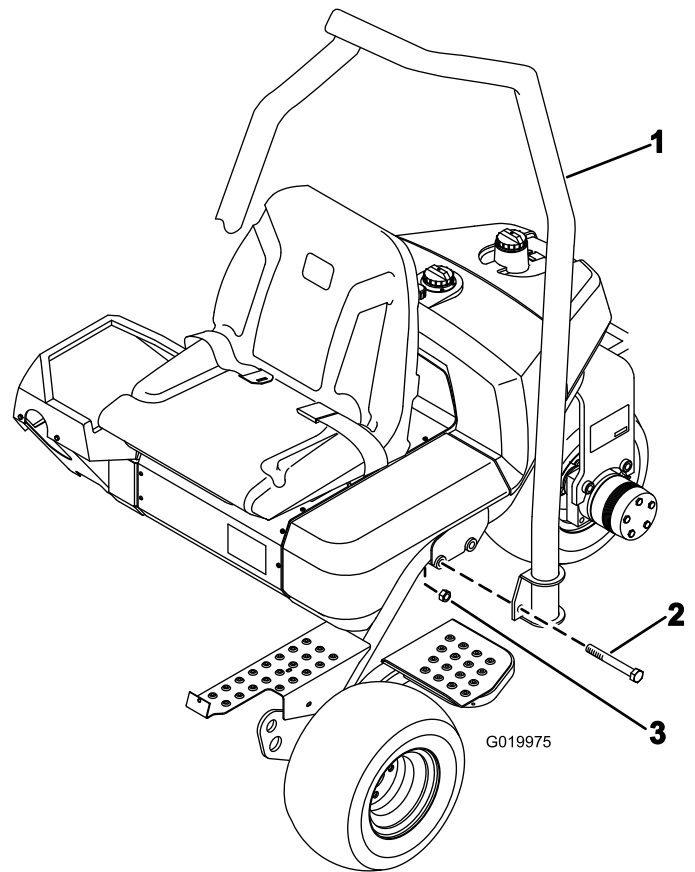

Figure 7
2. Lower the ROPS onto the frame, aligning it with the mounting holes (Figure 7).
3. Secure each side of the ROPS to the frame with 2 bolts (5/8 x 4-1/2 inches) and locknuts as shown in Figure 7. Torque to 183–223 N-m (135–165 ft-lb).
1. Position the ROPS so the top of the tube is curved toward the front of the machine (Figure 7).